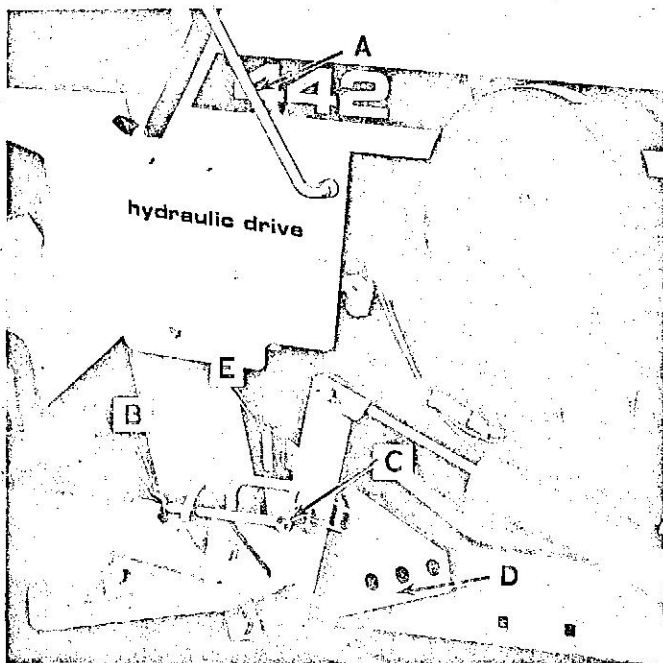

Figure 2. Operation and Adjustment
3. Pull back on the lift control lever, Reference "A", Figure 2, to raise the attachment. To lower the attachment push the lever ahead. The control valve has a centering spring which returns the lever to neutral from either the "raise" or "lower" position. The speed at which the attachment is raised or lowered can be controlled by the amount of back or forward movement on the control lever. You may find it helpful, when very close control of the attachment is necessary, to use the steering wheel or the rear of the hood as a support for your hand when moving the lever.